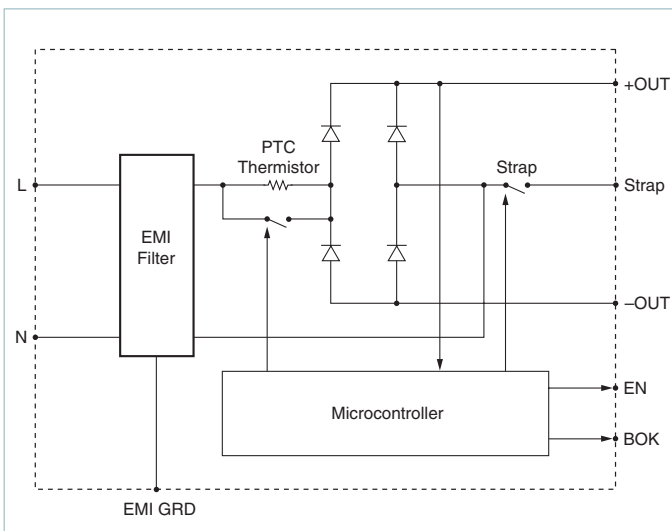

Figure 7 — Functional block diagram: autoranging rectifier
Initial Conditions: The switch that bypasses the inrush limiting PTC (positive temperature coefficient) thermistor is open when power is applied, as is the switch that engages the strap for voltage doubling. (See Figure 7). In addition, the converter modules are disabled via the Enable (EN) line, and BusOK (BOK) is high.